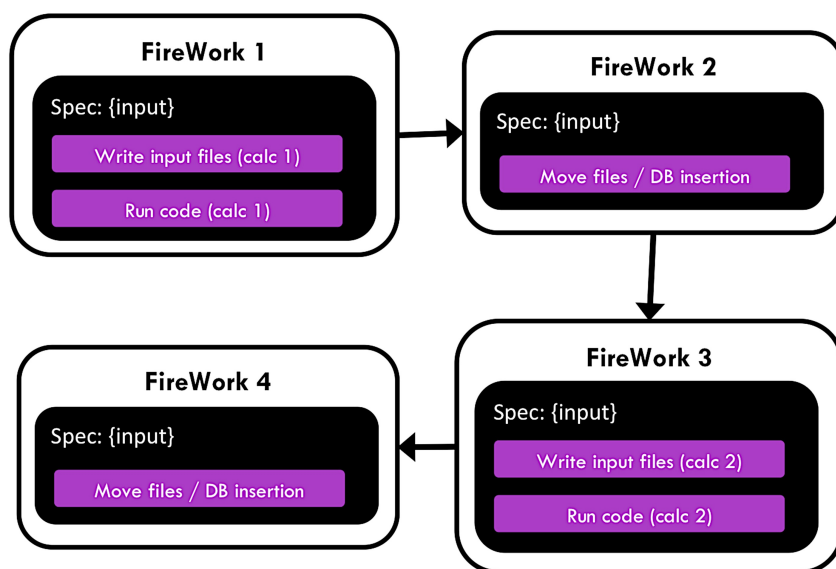

Figure 6 Third iteration of how a Workflow could be written – both calculations and database insertions are given their own FireWorks.
In this third (and final) iteration of the Workflow, both calculations and file movement/database steps are given their own FireWorks (Figure 6):
- A GGA structure optimization job is created as the first step, just like Figure 6
- A database insertion job is created as the second step, just like Figure 6